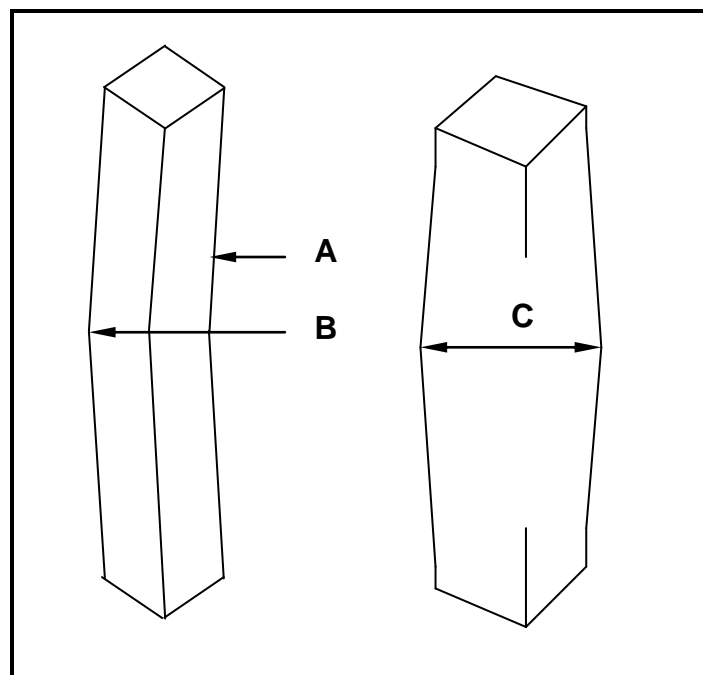

FIGURE 2.6
2.6 FIGURE 2.6 below shows two concrete columns with defects caused by forces acting on them.